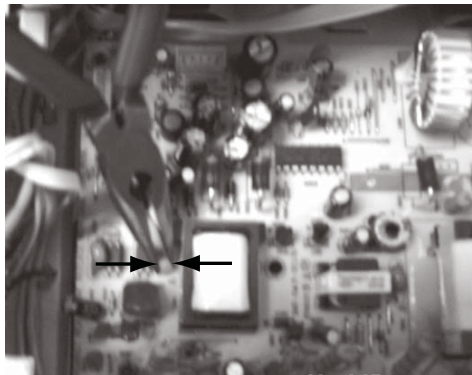

Figure 8
- 2) Using a noise plier to press the rubber space tightly, then you can take the power board out from the main unit as shown in figure 8